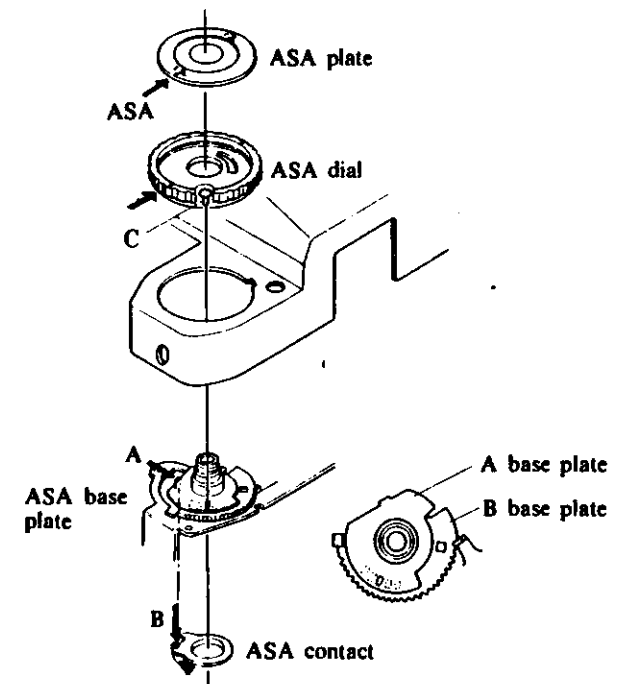

Fig. 6
5. ASA base plate (sketch No. 2 on page 26) (see Fig. 6)
6. ASA dial (sketch No. 25 on page 22) (see Fig. 6)
Then insert PIN C of the ASA DIAL into the holes of the BASE PLATES A and B (Fig. 6).